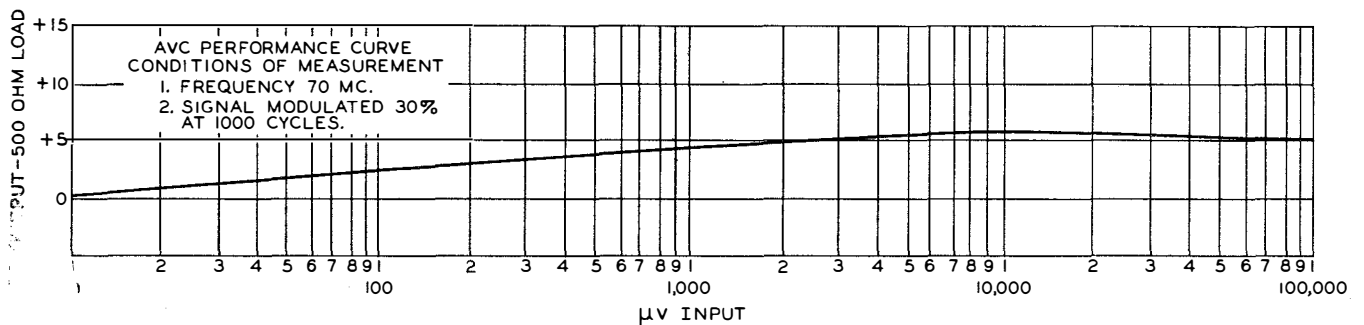

Figure 1-6—AVC Performance Curve
(12) Frequency stability— $\pm 0.03\%$.
(13) Automatic volume control. (See figure 1-6.)